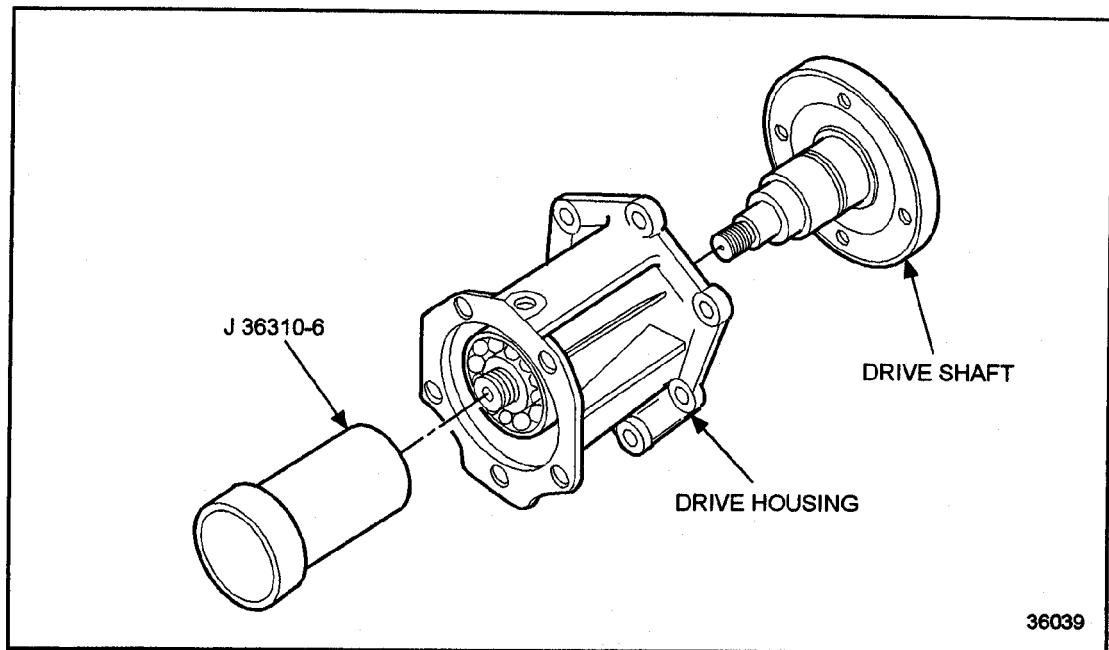

Figure 10-32 Air Compressor/Raw Water Pump Drive Shaft Installation (Current Design)
13. Place wide end of ball bearing installer, J 36310-6, part of J 36310-A, on press bed. See Figure 10-32.